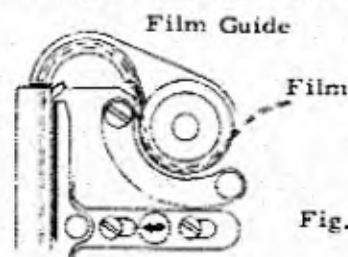

Fig. 48
- 3) Set the film along Film Guide. See Fig. 48.